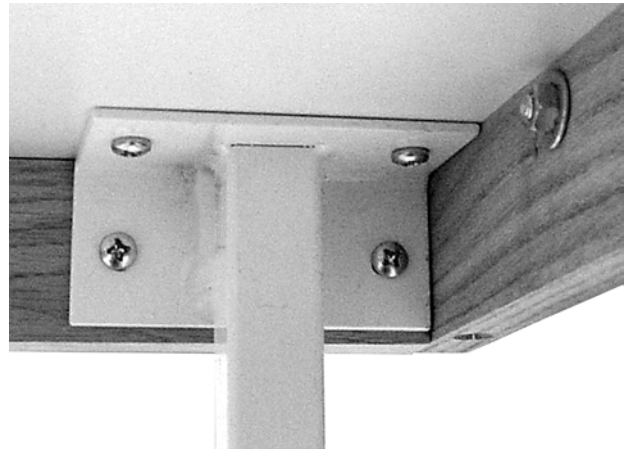

Figure 12
7. Mount the two legs to the inside corners of the extension table as shown in Figure 12. Secure with the eight screws provided.